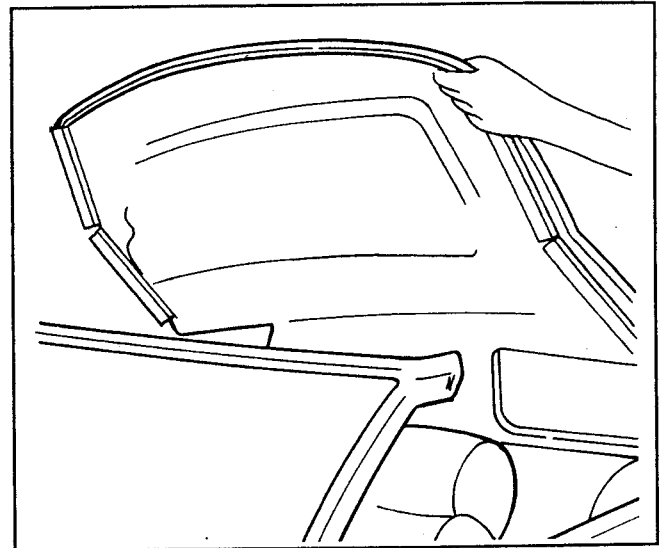

Figure 13. Lower Roof Assembly
8. Lower the top stack into the stowage compartment (Fig. 13).